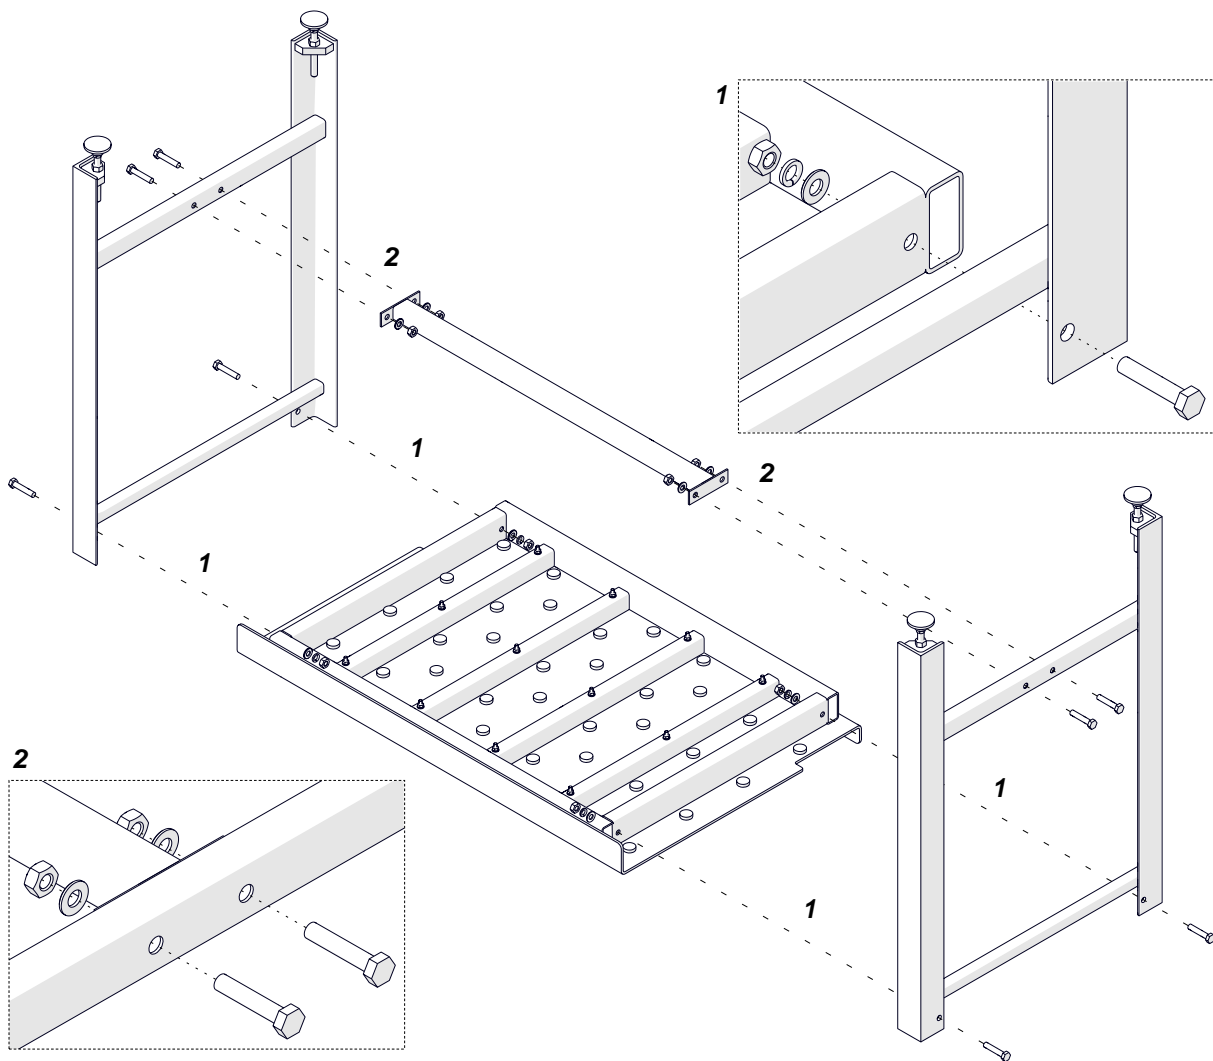

Fig. 18. Assembling the table
To assemble the table, put it upside down (Fig. 18). Use the 16 mm and 17 mm flat wrenches to attach the legs (1) and bracket (2).
Use the 14 mm flat wrench to rotate the feet (1, Fig. 18) so that the height of the tables is the same. Next, use the 18 mm flat wrench to tighten the nuts (2) to lock the feet in this position. Then, align the faces of the tables (3). Be careful not to catch your hands between the handle and table (4).